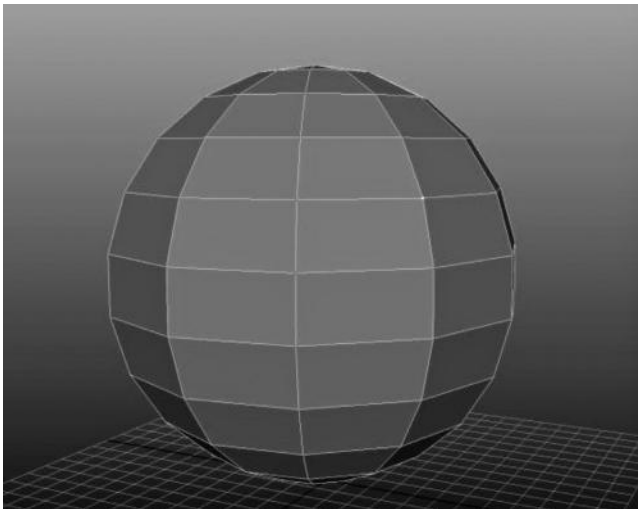

FIGURE 2.28 Vertex for extrusion selected.
**Extrude** gets its own section because it is such a powerful tool in modeling. Extrude can be done on a vertex, an edge, or a face, but primarily this operation is done on faces. Extrude “pulls out” the vertex, edge, or face of a polygon while creating connecting faces that create a 3D shell around your component. It is far easier to illustrate this with pictures than with words, so you will see in Figures 2.28 through 2.33 an example of an extruded vertex, edge, and face, respectively.